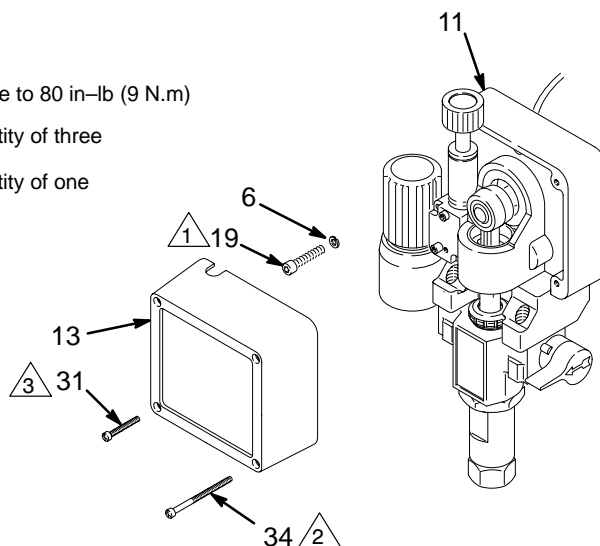
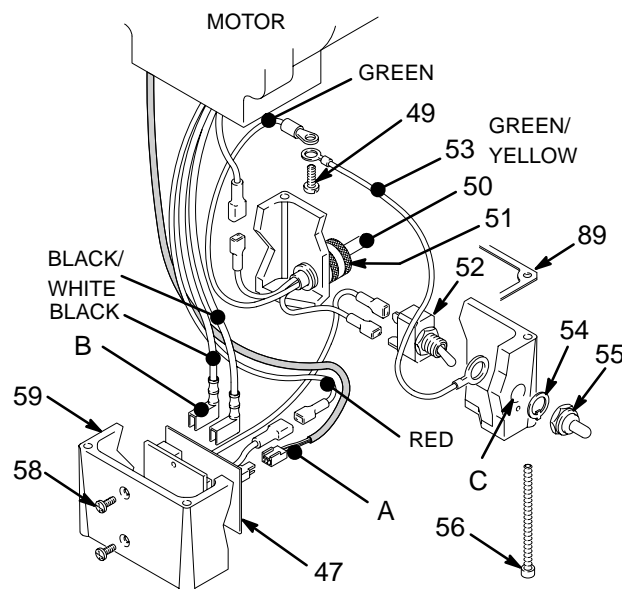

Fig. 25
Fig. 26
NOTE: See Fig. 25 except where noted.
3. Remove the screws (56) and lower the junction box (59). Disconnect the motor wires and the pressure control wire (A) from the motor start board. Refer to Fig. 26 on page 26.
4. Remove the front cover (13).
5. Turn the displacement pump rod (107) so the pin hole aligns with the bottom drive housing screw (19). See Fig. 24. Remove the three drive housing screws and lockwashers (19,6). Also see Fig. 25.
6. Remove the two motor screws (5) and the lock washers (6).
7. Tap the lower rear of the drive housing (11) with a plastic mallet to loosen the motor. Pull the drive housing straight off the motor while guiding the harness (A) from the motor. Do not allow the gear (16) to fall. Read the CAUTION on page 27.
8. Remove the two screws (46) and lift the motor off the base (66).
9. Align the new motor with the base and reinstall the screws (46).
11. Connect the wires in the junction box. Refer to Fig. 26 on page 26. Install the junction box.
12. Connect the piston rod (107) to the drive housing; see page 21, **Installing the Pump**, Step 2 and the **WARNING** following it.
NOTE: See Fig. 26 for this procedure.